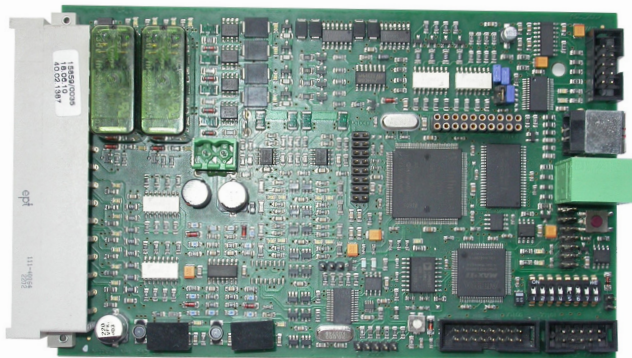

Figure 5: Circuit board - axis controller
- Push the reset button 1 on the circuit board and hold it down. (See Figure 5)